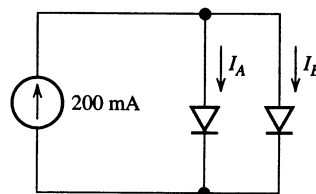

Figure P3.79
3.79. Current hogging. Consider the diodes shown in Figure P3.79. The diodes are identical and have $n = 1$. For each diode, a forward current of 100 mA results in a voltage of 700 mV at a temperature of 300 K. (a) If both diodes are at 300 K, what are the values of I_A and I_B ? (b) If diode *A* is at 300 K and diode *B* is at 305 K, again find I_A and I_B . Assume that I_s doubles in value for every 5-K increase in temperature. [Hint: Answer part (a) by the use of symmetry. For part (b), a transcendental equation for the voltage across the diodes can be found. Solve by trial and error.] An important observation to be made from this problem is that, starting at the same temperature, the diodes should theoretically each conduct half of the total current. However, if one diode conducts slightly more, it becomes warmer, resulting in even more current. Eventually, one of the diodes hogs most of the current. Hogging is particularly noticeable with large currents for which significant heating occurs.